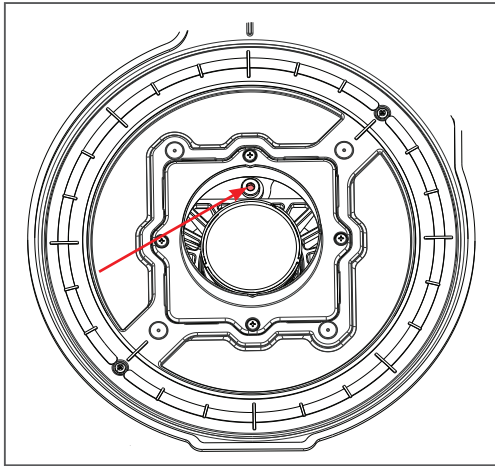

fig. 22 (rotation lock)
1. Unlock the emitter chassis by loosening the lock screw with the 4 mm hex tool (see fig 22).